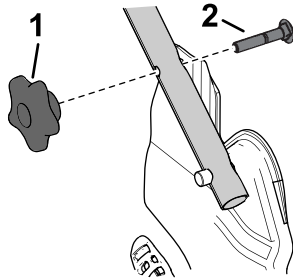

Figure 23
1. Remove and save the 2 handle knobs and 2 carriage bolts from the handle brackets (Figure 23).